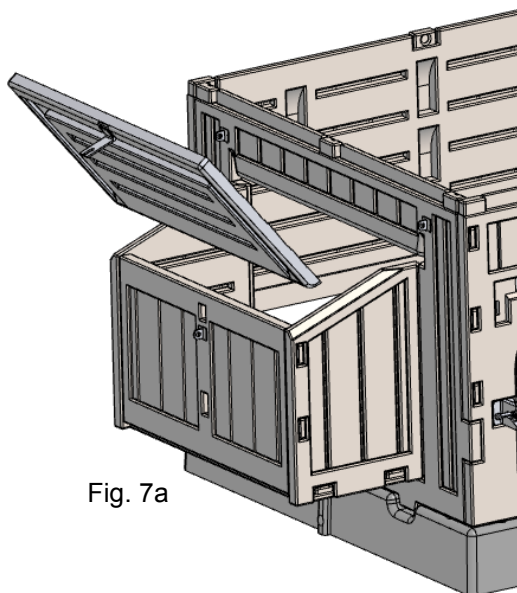
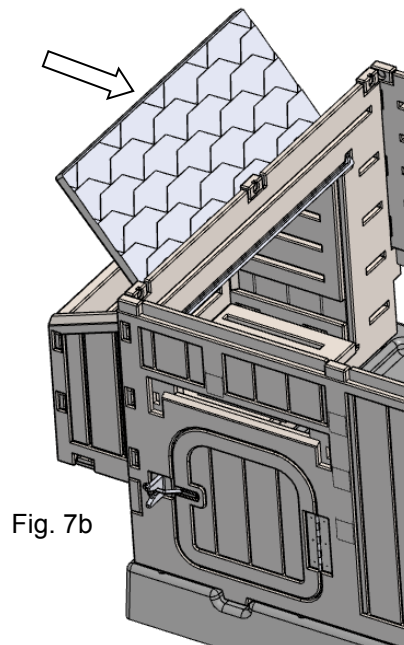

Fig. 7a
Fig. 7b
Step 7: Assemble the Nest Box Lid to the Nest Side Wall by first inserting the Nest Box Lid into the Nest Side Wall at an angle (Fig. 7a) that will allow the back end of the lid to slide underneath the upper tab on the Nest Side Wall (Fig. 7b). Sing down and the Nest Box Lid is in place. (Fig. 7c)